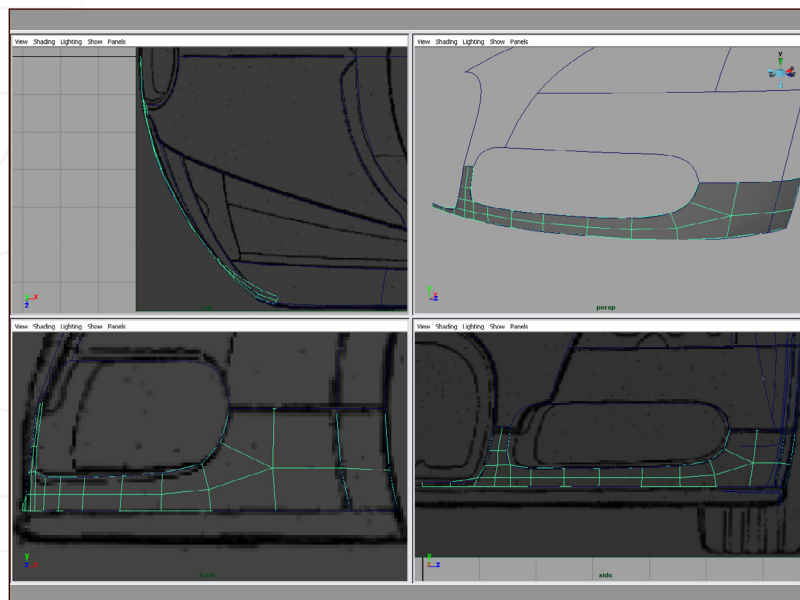

Fig 33
27. **Fig33** shows how the front bumper was created. Just remember to use your guide curves and build up detail slowly and evenly. I'm not sure if I'm 100% happy with the geometry flow, so I reserve the right to amend it in the next section if it doesn't look right with a smooth and bevel.